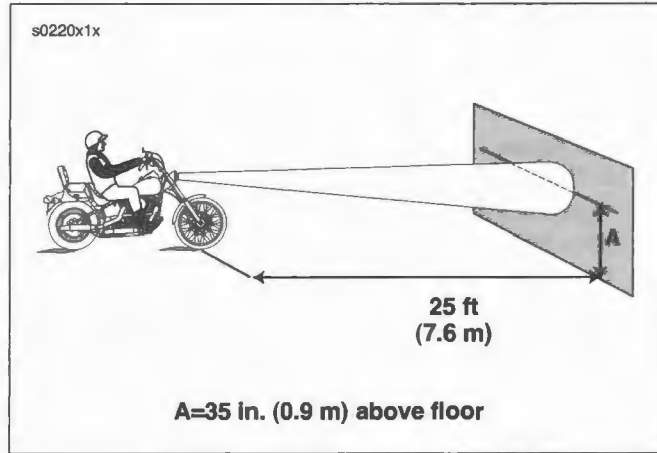

Figure 1-56. Headlamp Alignment
- a. See Figure 1-56. For FXST, FXSTB, FXSTD, FXSTC, FLSTSC and (and HDI FLSTC/FLSTF) vehicles, draw a horizontal line 35 in. (0.9 m) above floor on screen/wall.